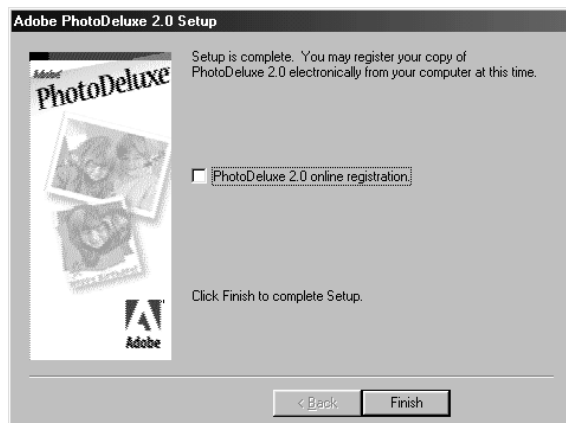

Figure 19: Installing Adobe PhotoDeluxe 2.0
11. Click on 'Next'. A screen as in Figure 19 is displayed.
12. Disable the on-line registration option for PhotoDeluxe (Figure 19). Click on 'Finish' to complete the installation.